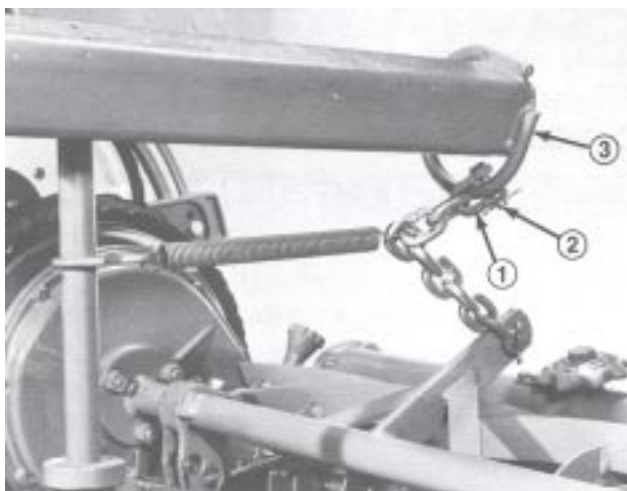

Figure 13
1. Connect (2) outer lift chains to pulley support with short shackles, clevis pins and cotter pins (Fig. 13)
3. Secure short lift chains to No. 4 and No. 5 lift arms (rear) with short shackles, clevis pins and cotter pins (Fig. 13). Secure to welded ring.